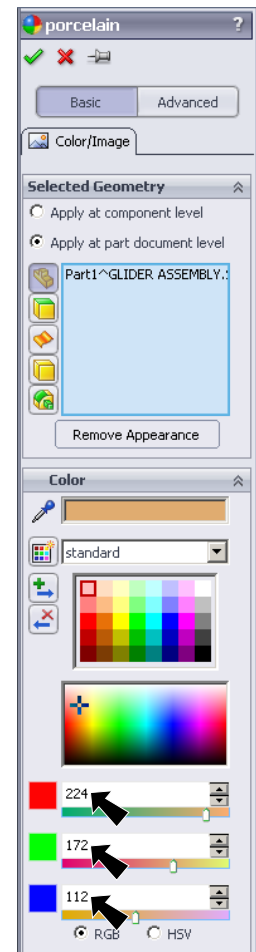

Fig. 25
Step 2. In the Appearances Property Manager, Fig. 25